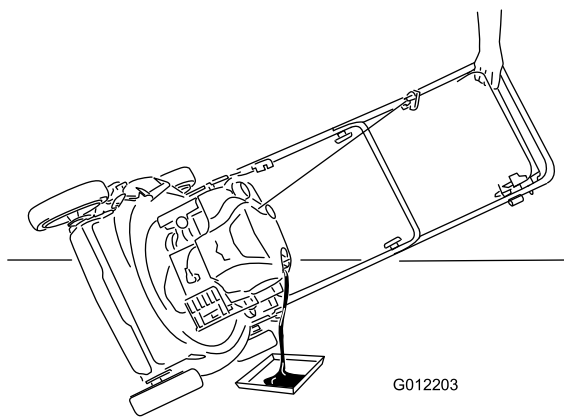

Figure 35
3. Tip the mower onto its side, with the air filter up, to drain the used oil out through the oil fill tube (Figure 35).